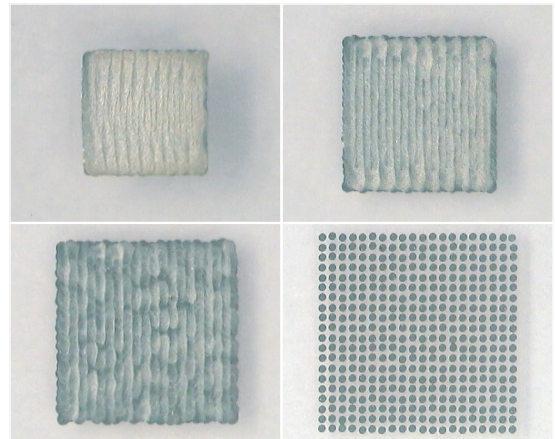

Fig. 3: Metalon arrays of 20×20 spots printed with a Pico-Tip. Droplet distances were 40, 50, 60 and 110 µm (different magnification used for 110 µm).
Fig. 3: Dried/hardened spots of PDMS ink on hydrophobic glass slides for different dispensed volumes (droplets per spot). (A) Nano-Tip HV, PDMS:OA 1:3; (B) Pico-Tip, PDMS:OA 1:5.